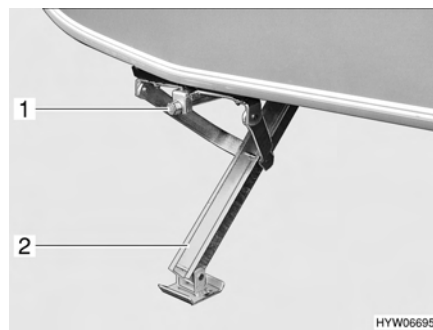

Fig. 9 Corner steady cranked down
- Place the hand crank provided as standard on the hexagonal nut (Fig. 9,1) of the corner steady (Fig. 9,2).